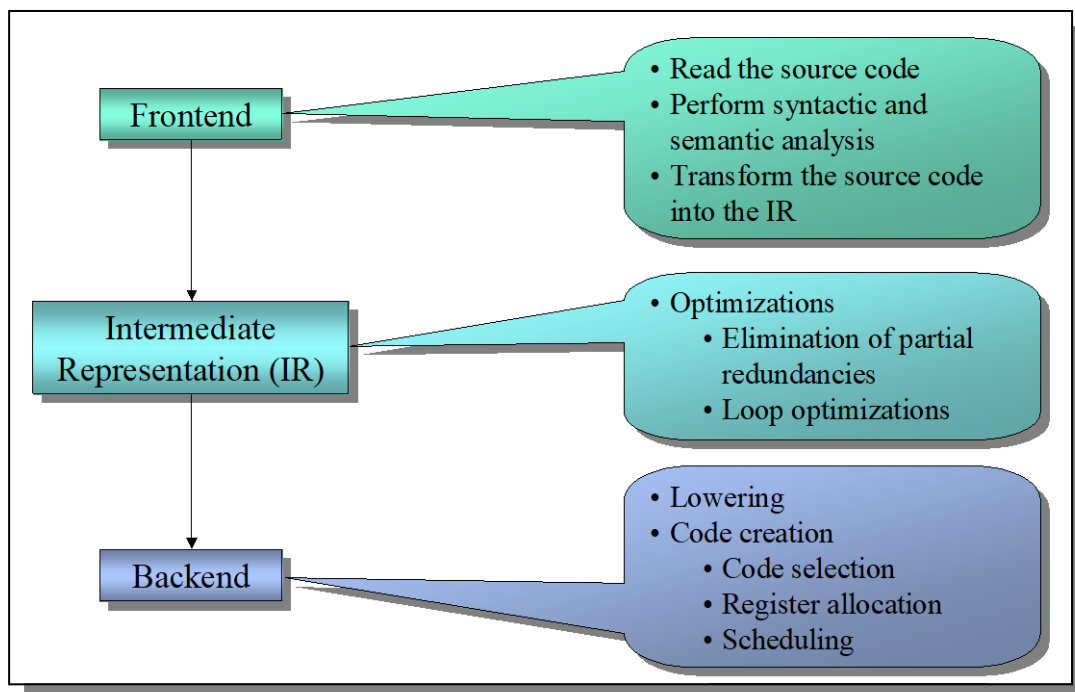

Figure 8-1: A Typical Buildup for a Retargetable Compiler
A typical retargetable compiler is separated into **three** phases, as shown in Figure 8-1. The first stage is architecture independent, but source language dependent. This phase reads the source code, inspects it for syntactic and semantic correctness, and transforms it into the second phase, the intermediate representation (IR). This IR is as well source language independent as architecture independent and it is used to perform the optimizations. This implies, that the optimizations can be easily reused, if the source language or the architecture changes. The third phase is source language independent, but highly architecture dependent. This backend first transforms the IR into a low-level form. That means, that high-level structures, like polymorphic procedure calls are replaced by jump tables or that complex data structures are disassembled into elementary memory accesses. Afterwards the final assembly code has to be created. This part is separated into **three** steps. In the first step, code has to be selected out of the lowered IR. This code selection is not unique, as there are always different possibilities to represent some statements in assembly language. This code selection works with virtual registers, which are replaced by real registers in the second step. This register allocation might lead to additional stack accesses for swapping values